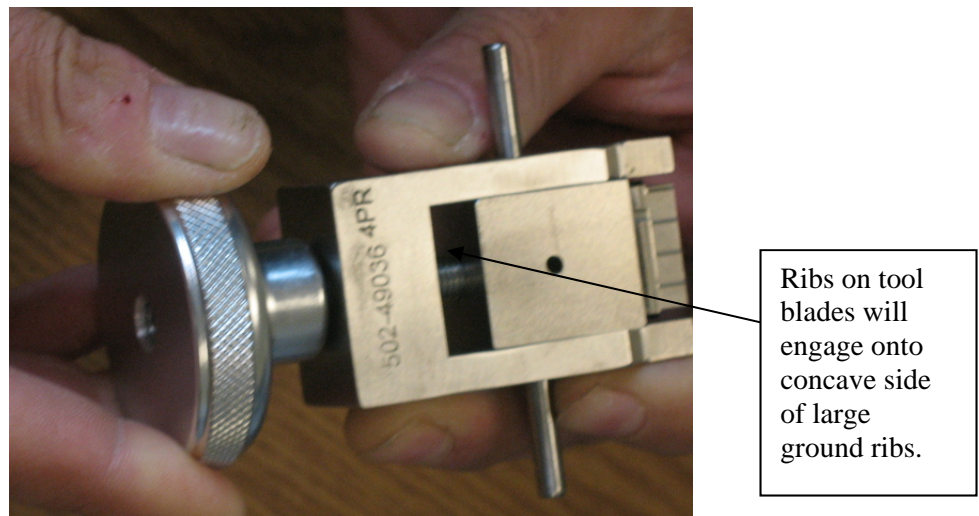

Figure 11. Loosening the Knob while Pushing Knob Toward C-frame
- Step 3. Be sure that the tool is set to the ready position by loosening the knob while pushing knob toward C-frame shown in Figures 11 and 12.